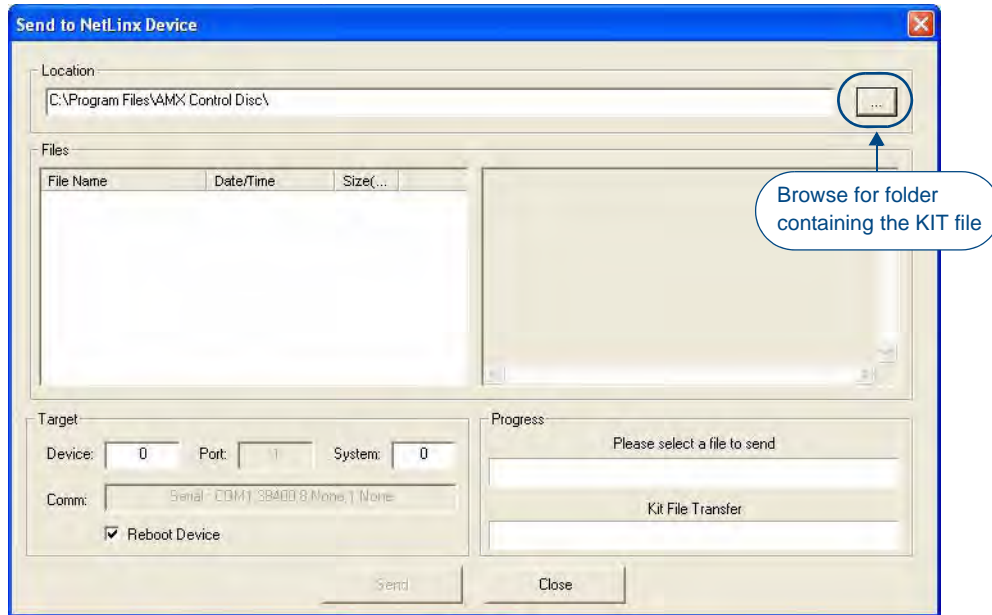

FIG. 29 Send To NetLinx Device dialog (NetLinx Studio)
1. Choose **Tools > Firmware Transfers > Send to NetLinx Device** to open the *Send To NetLinx Device* dialog (FIG. 29).